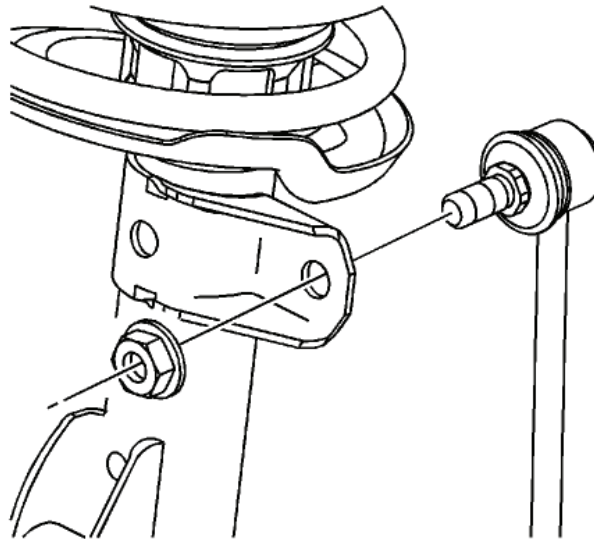

fig. 2
2. Detach brake hoses, wheel speed sensors, and stabilizer link from the strut assembly (figure 2).